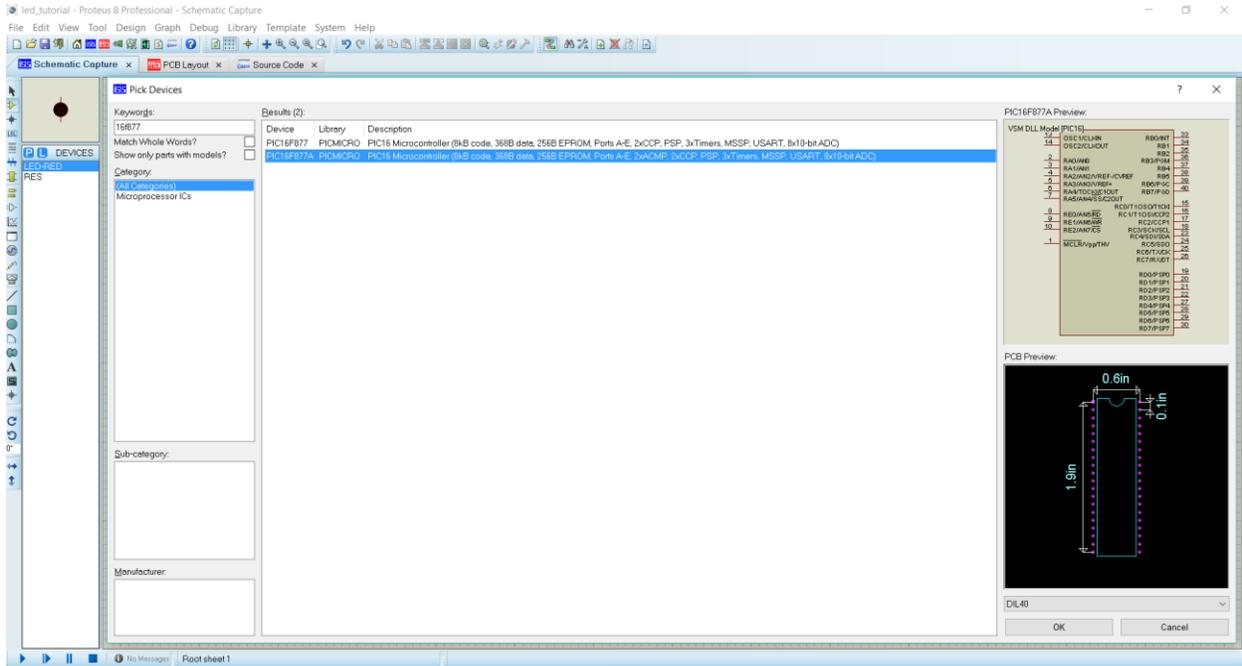

Figure-11
3) Type PIC16F877A, LED-RED, RES step by step then double click for each one. **Figure-11** shows the operation.